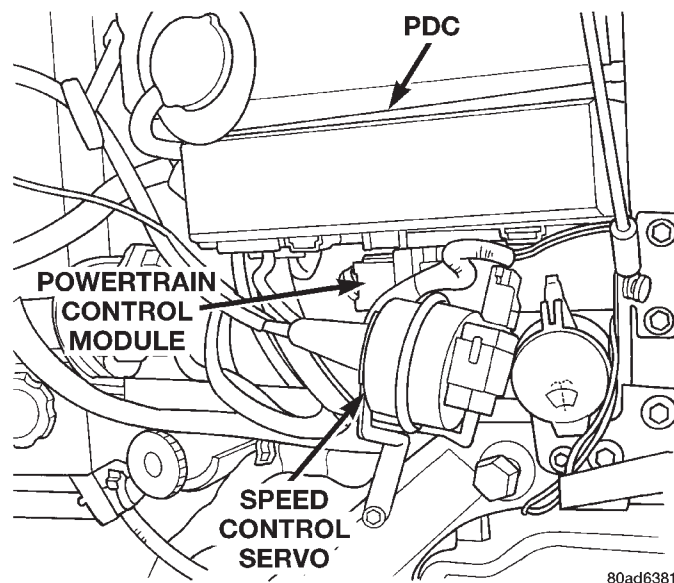

Fig. 57 PCM Location
- (1) Remove speed control servo and bracket and reposition out of the way (Fig. 57).